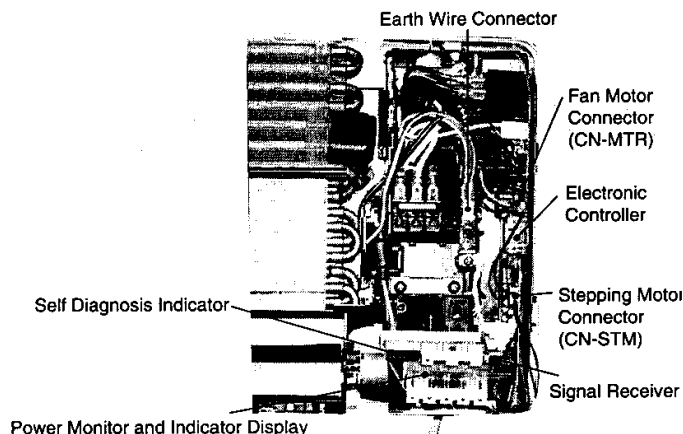

Fig. 1
The Electronic Controller, a signal Receiver, a power monitor, as indicator and a self diagnosis indicator display can be seen by removing the Front Grille and Control Board Cover, as shown in the Fig. 1.
1. Remove the connector CN-MTR (GREEN) of Fan Motor and connector CN-STM (WHITE) of stepping motor from the electronic controller. Release the earth wire (YELLOW-GREEN) from the control board and sensors from its holders. (Refer Fig. 1)